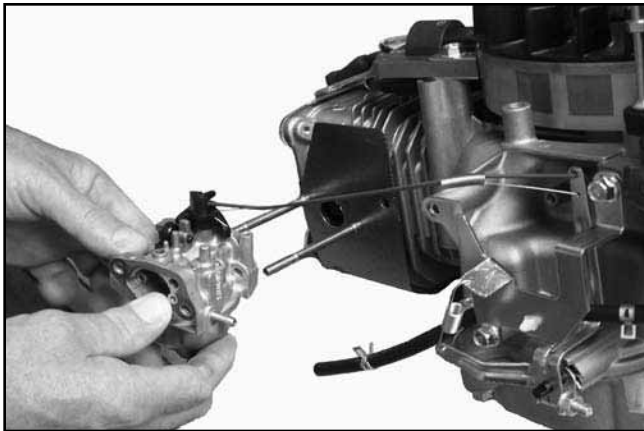

Figure 8-14. Removing Carburetor.
2. Slide carburetor to the end of the intake studs. See Figure 8-14.